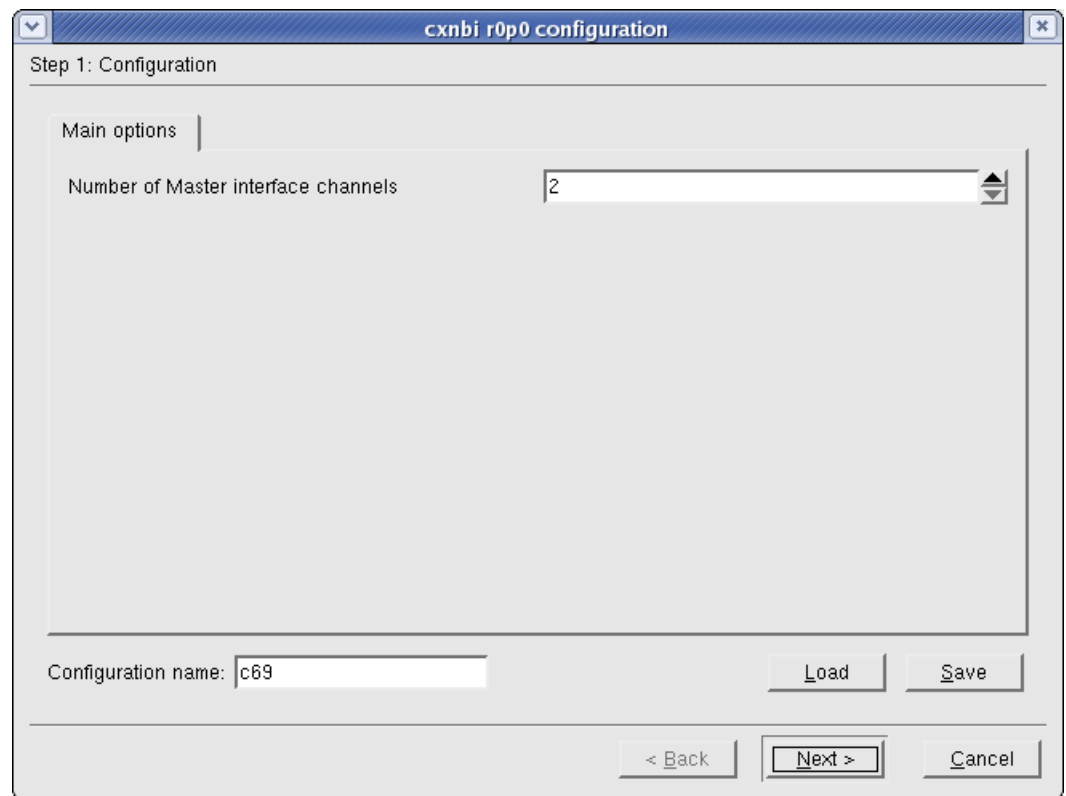

Figure 4-2 Example configurator window for an AMBA 4 components
2. Double-click the name of the component in the AMBA Configuration Window. A component Configurator Window appears. Figure 4-2 on page 4-3 shows an example of a Configurator Window.